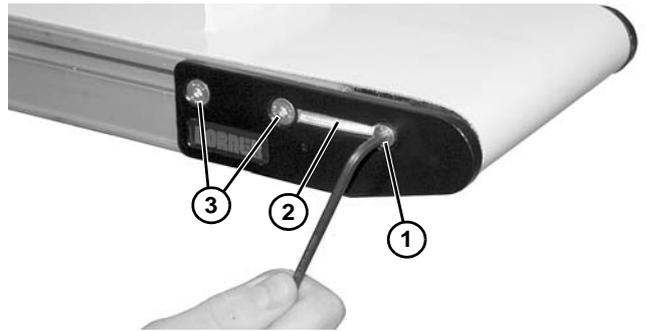

Figure 62
1. On one side of the conveyor, remove screw (Figure 62, item 1) and remove dust cover (Figure 62, item 2), if installed.
2. Remove two fastening screws (Figure 62, item 3).